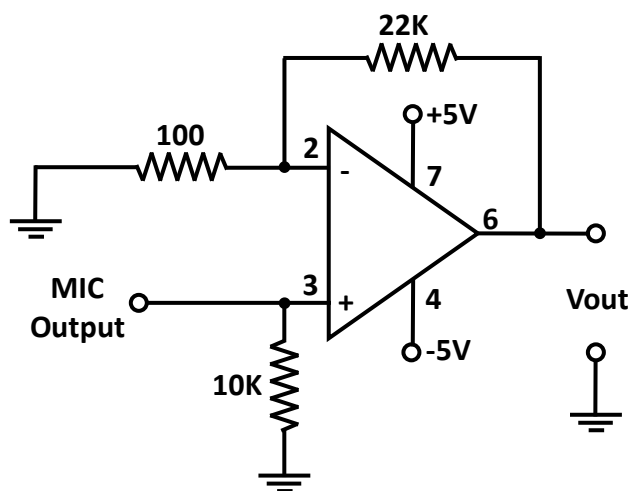

Fig. 5.2: Non-Inverting Op-Amp with fixed Gain
2. Connect the Op-Amp circuit as shown in Fig. 5.2.